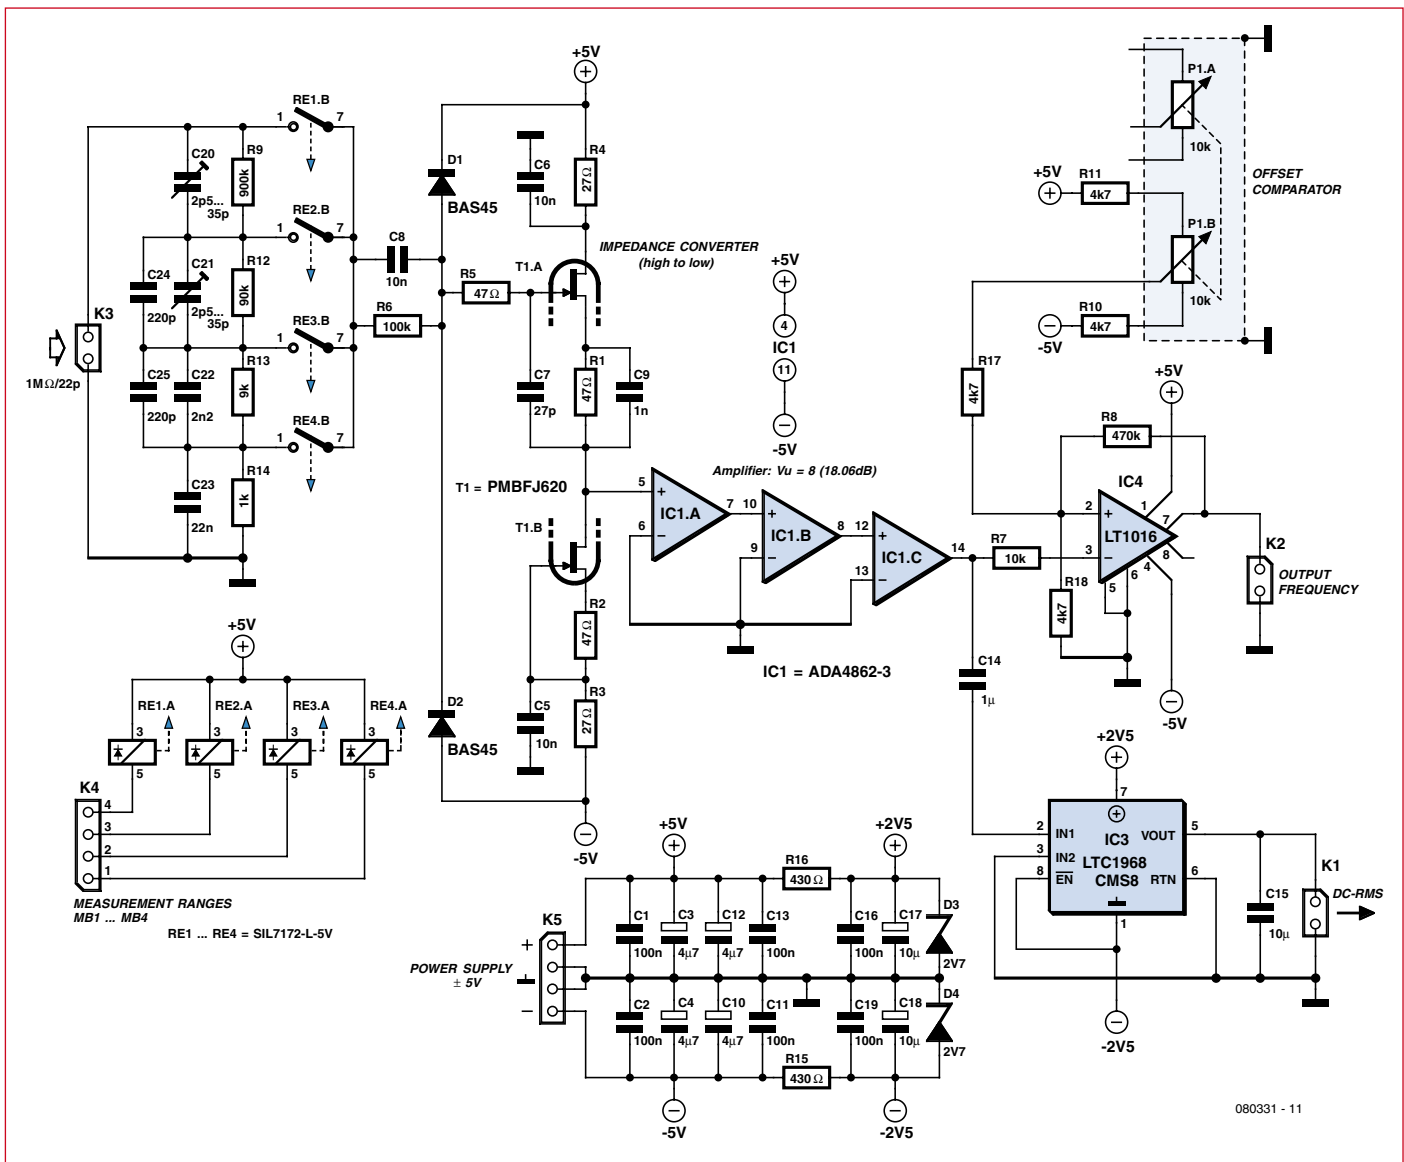

Figure 2. Circuit diagram of the amplifier module, including voltage divider, amplifier and RMS-to-DC converter.
**Figure 2** shows the circuit diagram of the input amplifier module, where the parts of the block diagram can clearly be seen. As the input voltage is AC, a frequency-compensated voltage divider is used. Without this, the voltage divider would form a low-pass filter with the input capacitance of the subsequent circuit, which would severely limit the maximum frequency of operation. To avoid various potential problems associated with matching and with high input voltages, relays are used to switch the voltage divider. The output of the divider is matched to the amplifier using a classical impedance conversion stage using a dual field-effect transistor. This guarantees good stability down to DC (see [3]). To allow for operation up to high frequencies the main amplification is car-